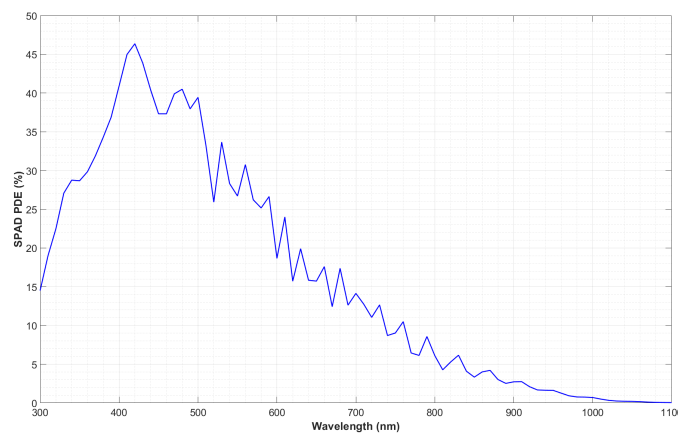

Figure 6. SPAD-PDE, i.e. the PDE of the active area of the SPAD sensor.
1. A SPAD-PDE as the PDE of the active area of the SPAD sensor (shown in Figure 6)